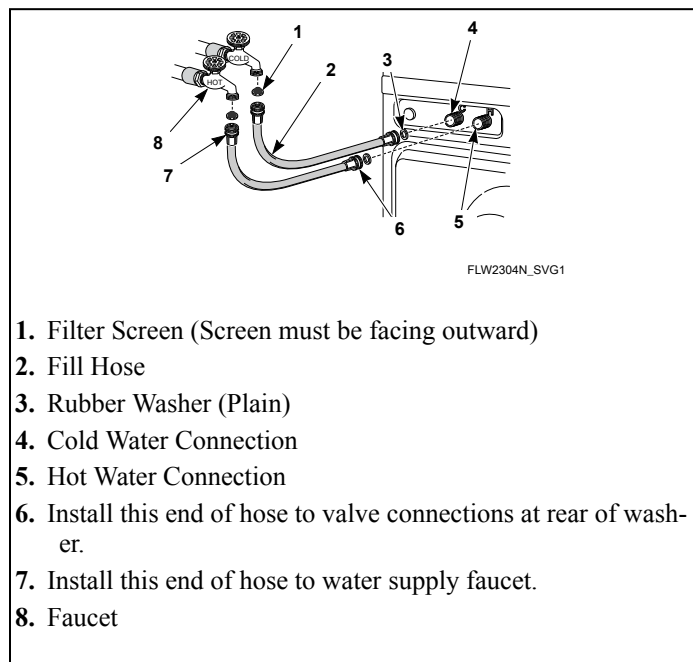

Figure 7
2. Install them into each end of the fill hoses as shown in *Figure 7*. The screen must be facing outward.
5. Screw hose couplings from other end of hoses onto the water mixing valve until they are finger-tight. Refer to *Figure 7*.